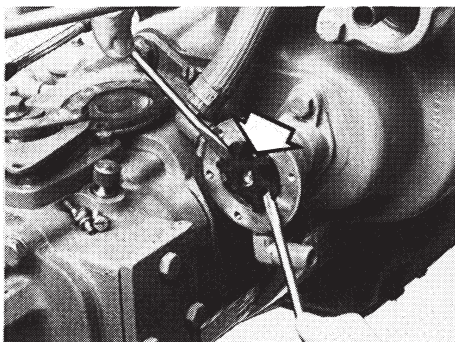

Fig. 21. Removing impeller.
1. Close the bottom cock. Remove the cover from the sea-water pump. **Note the risk of water getting into the boat.** With the help of two screwdrivers pull the shaft with the pump impeller out of the housing as far as necessary in order to reach the bolt retaining the impeller. See Fig. 21. NOTE. Place some kind of protection under the screwdrivers in order not to damage the impeller housing.